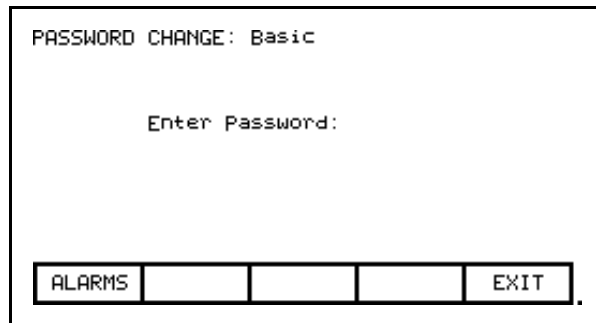

Figure 3.35 – PIN Change
The default value for the password (PIN) of the 'Basic' and 'Advanced' levels is zero (0), or simply pressing the [enter] key. This value can be changed from the ACCESS screen. First use the up/down cursor keys to select the level for which you wish to modify the PIN. Press the [F9] key. The typical PASSWORD CHANGE screen shown in Figure 3.35 is displayed, showing the Access Level for which the new PIN will be applied to.